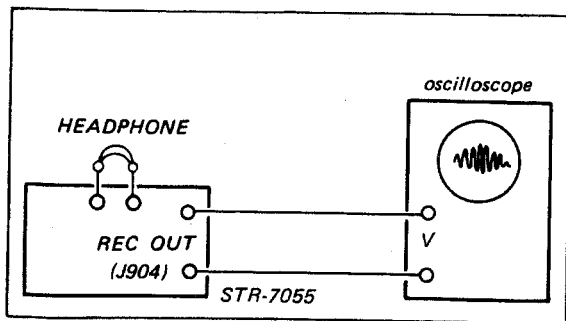

Fig. 3-5. Discriminator alignment test setup
- Connect the input cable of the oscilloscope to REC OUT jack (J904) as shown in Fig. 3-5.